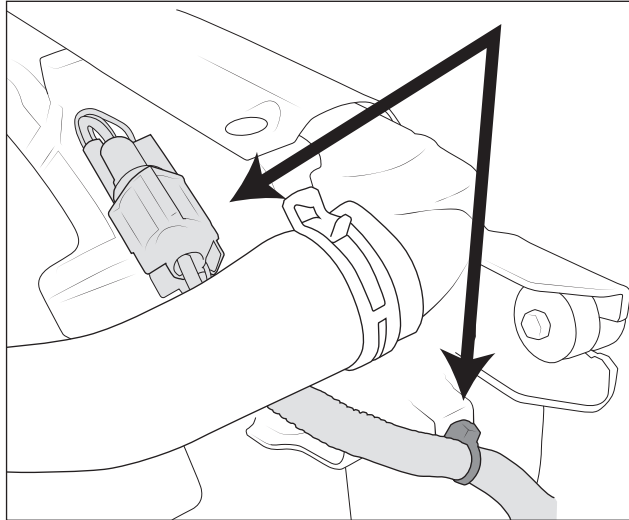

Figure 1
3. Unplug the fan connector from the fan. Remove the fir tree zip tie from the fan harness (Fig. 1).